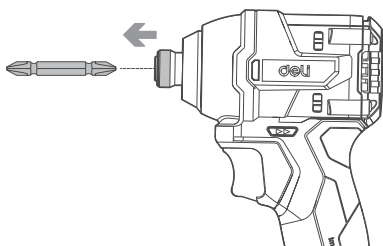

Figure B1
1. When installing the bit, pull the sleeve in the arrow direction and insert the bit all the way to the innermost end of the sleeve. Then release the sleeve to secure the bit. (See Figure B1)